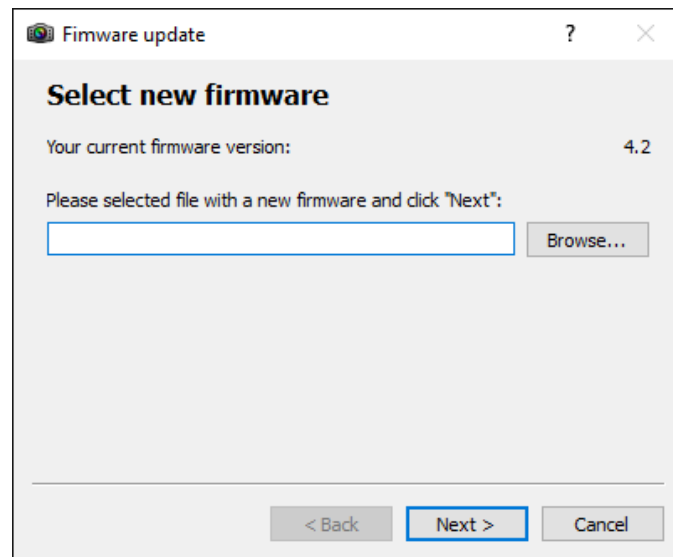

Figure 27 : Firmware Update selection window
2. Click "Browse..." button, as shown in Figure 27, and select the desired firmware update file, in accordance with the device chosen (.bin file extension), and Click "Next >" button.